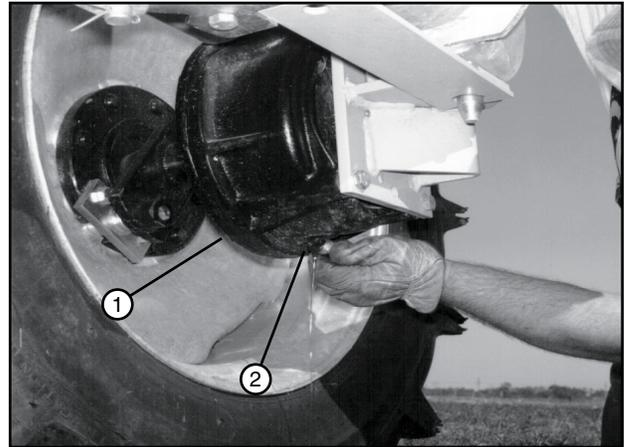

Figure 47-1 1. Wheel Gearbox
1. Remove the drain plug from the bottom of the wheel gearbox and drain the oil into a container. See figure 47-1.